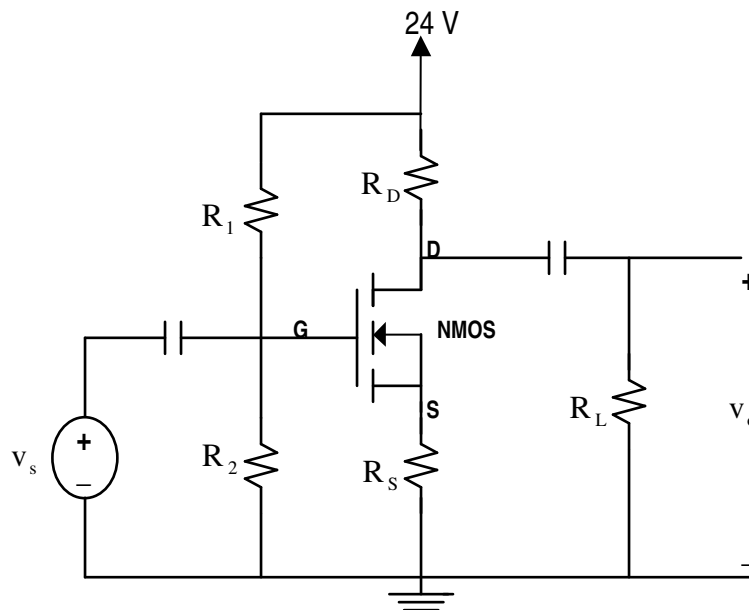

Figure P7.1
- 7.1 An NMOS **common-source** amplifier circuit is given in **Figure P7.1** where $R_D = 4\text{ k}\Omega$, $R_S = 2\text{ k}\Omega$, $R_L = 6\text{ k}\Omega$, $R_1 = 200\text{ k}\Omega$, and $R_2 = 100\text{ k}\Omega$. The transistor parameters are $K_N = 0.5\text{ mA/V}^2$, and $V_T = 2\text{ V}$. Determine the dc operating point and sketch the dc and ac load lines. Calculate the small-signal voltage, current, and power gains. What are the input and output resistances?
- 7.2 If the source resistance R_S is bypassed by a large capacitor and the load resistance R_L is removed from the circuit in **Figure P7.1**, determine the voltage, current, and power gains for the modified circuit. What are the input and output resistances in this case?